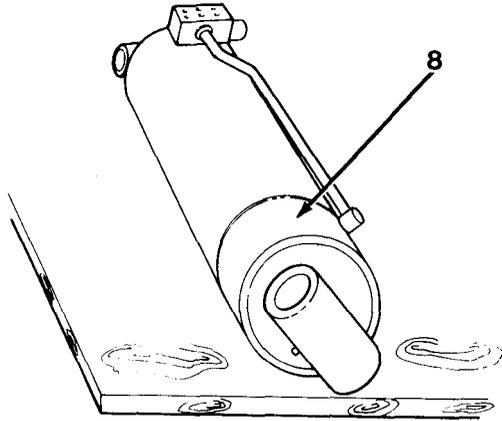

Figure 13-4
1. Place boom hoist cylinder (8, Figure 13-4) in appropriate holding device or fixture.